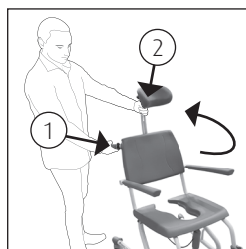

Figure 15 Tilting Frame.
- In order to tilt the nemo in an ergonomic and responsible manner, the operator should be standing diagonally behind the Nemo. Grasp the hand grip using your right hand (1). Using the left hand, hold the frame of the head support firmly (2) (See figure 15). The chair frame can be tilted by squeezing the operating handle.